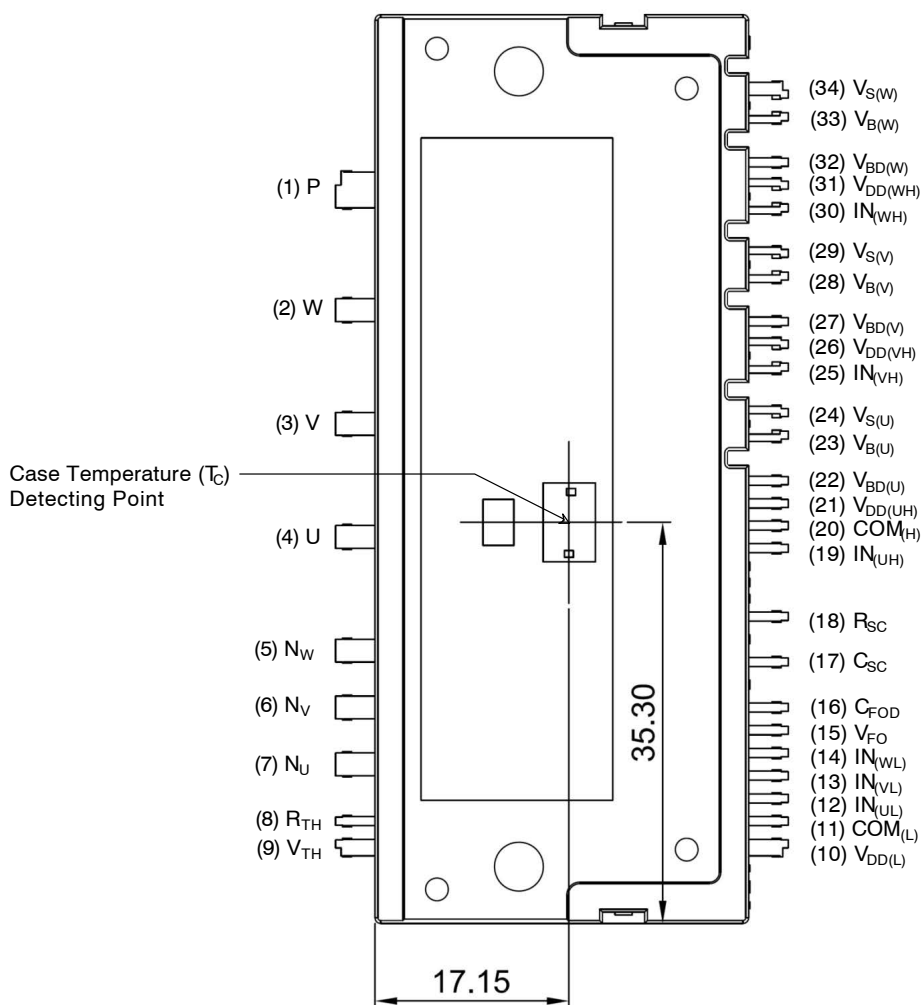

Figure 1. Top View
- 1200 V–35 A IGBT inverter for three–phase DC/AC power conversion (Refer to Figure 1)
4. For the measurement point of case temperature (T_C), please refer to Figure 1. DBC discoloration and Picker Circle Printing allowed, please refer to application note AN-9190 (Impact of DBC Oxidation on SPM® Module Performance).